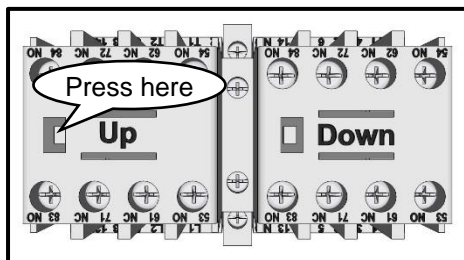

Figure 13
- 2** Through the motor access panel open the controller and use the "Up" contactor to move the lift carrier up until the bottom of the carrier is approximately 6 feet above the floor. (see Figures 13, 14 & 16) (see Page 14 for Contactor Operation)
- 5** Through the motor access panel open the controller and use the "Down" contactor to move the lift carrier down until the top of the carrier is lined up with the bottom of the top hoistway door. (see Figures 13, 14 & 16)